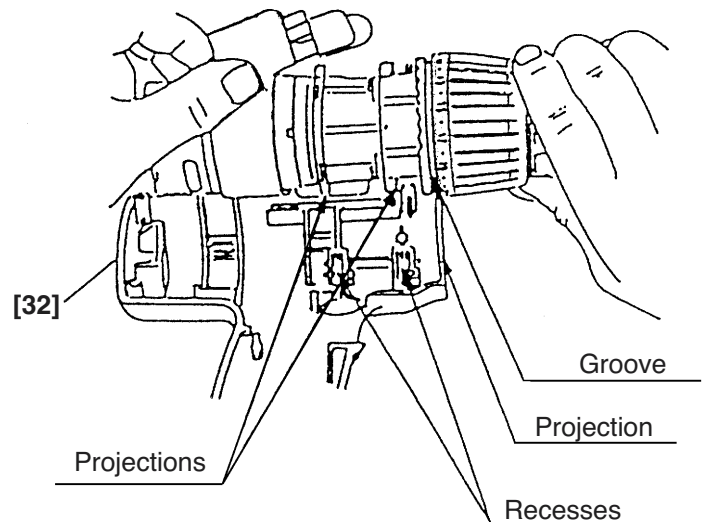

Fig. 16
(b) Install the assembly reassembled in step (3) into housing (A). Note that the projections on the Front Case [9] and the Motor Spacer [25] are engaged in the recesses in housing (A), and the projection on housing (A) is engaged in the groove of the Cap [4]. (See Fig. 16.)